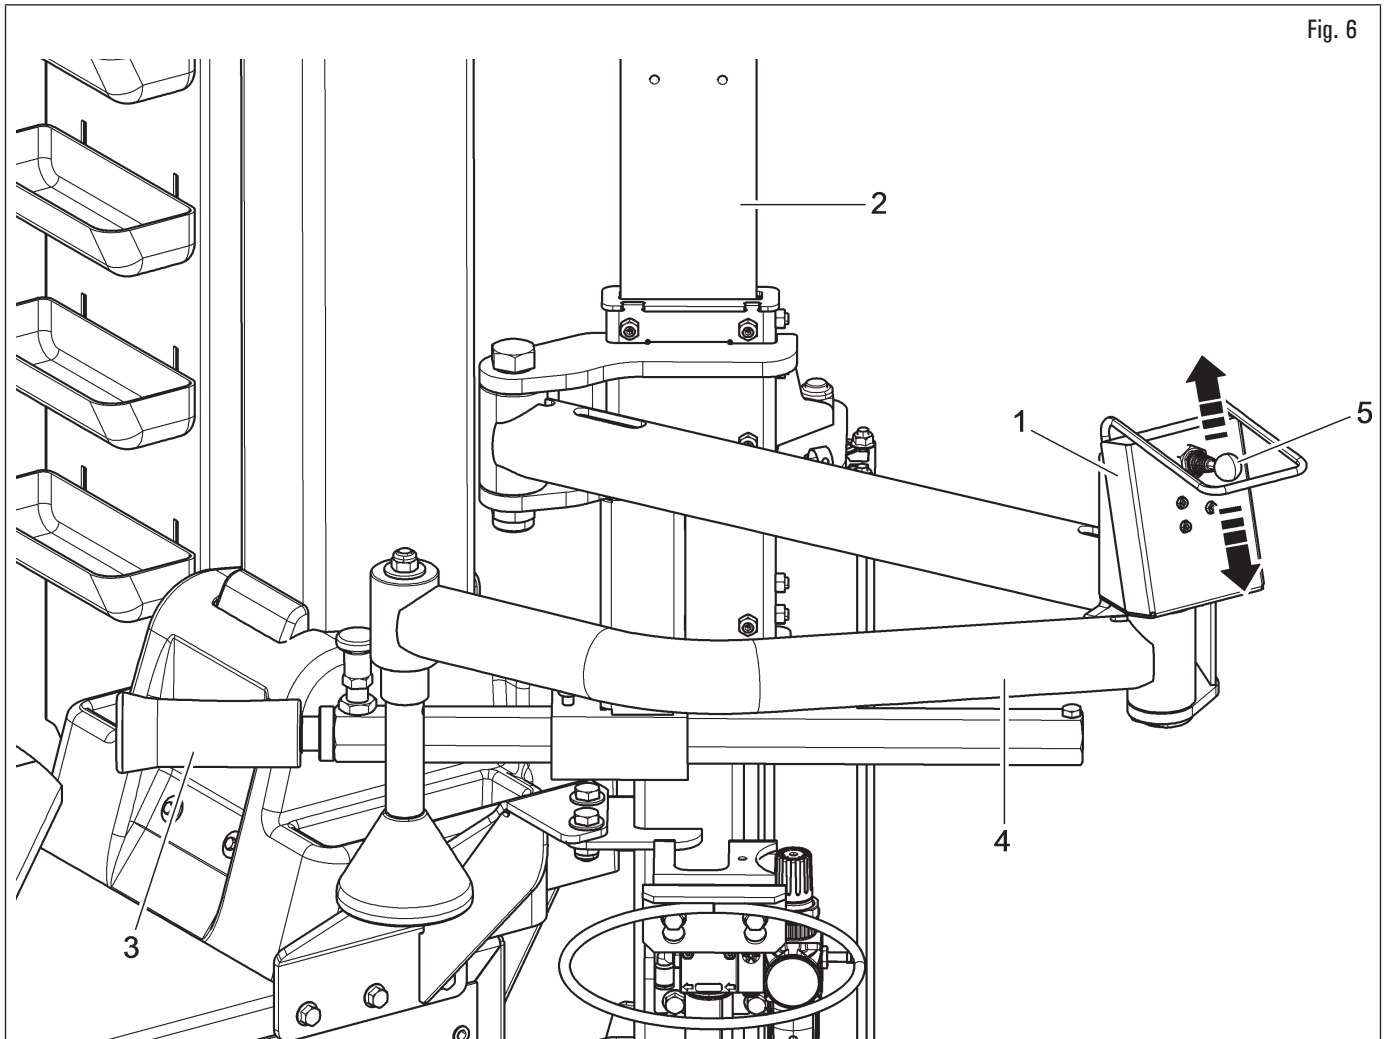

Fig. 6
It is made up of an handle control (Fig. 6 ref. 1), placed on the device (Fig. 6 ref. 2). With this handle control, it is possible to operate the vertical movement of the bead press roller (Fig. 6 ref. 3) and the pusher arm (Fig. 6 ref. 4). Lift the lever (Fig. 6 ref. 5) to operate the upwards movement, and lower the lever (Fig. 6 ref. 5) to perform the downwards movement.